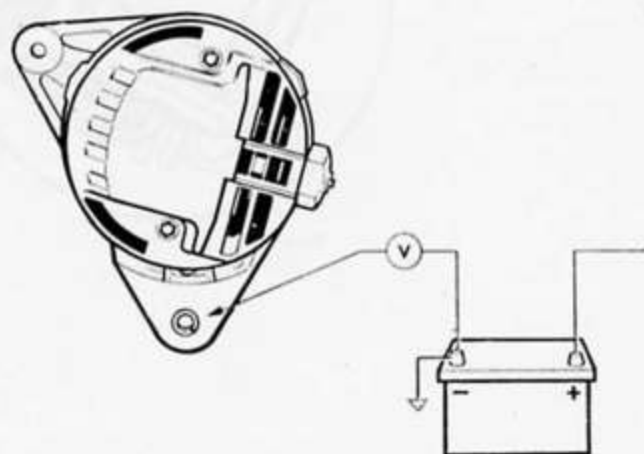

Fig. 68
- (iv) Transfer the voltmeter connections to the alternator casing (earth) and the negative terminal of the battery (see Fig. 68). Repeat (iii) and again note the voltmeter reading. If the reading